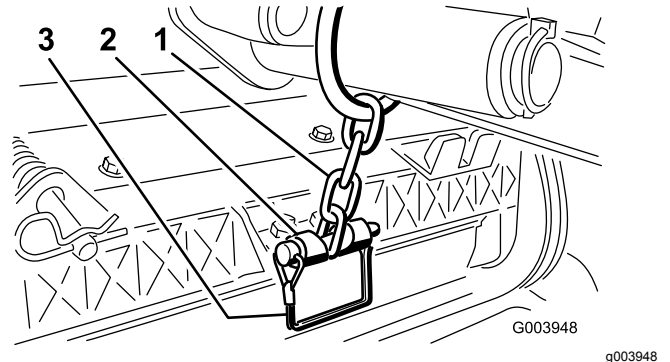

Figure 13
12. Secure the lift-arm chain to the chain bracket with the snapper pin (Figure 13).